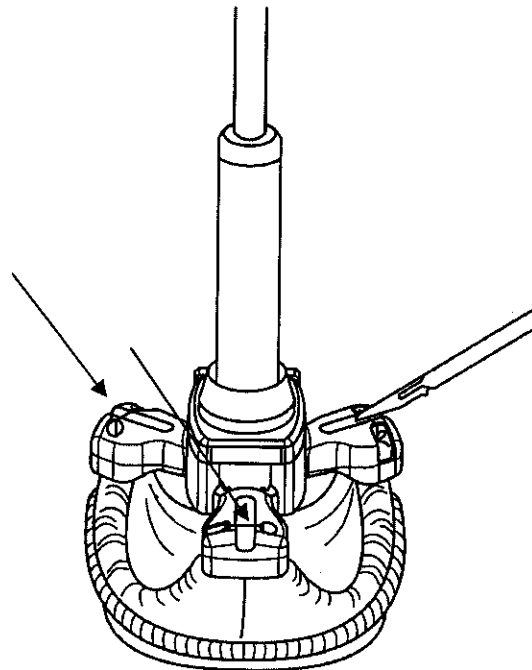

Figure 9: Cut three sutures to remove aortic holder.
3. To remove the valve holder from the valve, cut the three retaining sutures as shown in Figure 9, and pull the valve holder away from the valve. Examine the valve to ensure that there are no holder suture remnants.